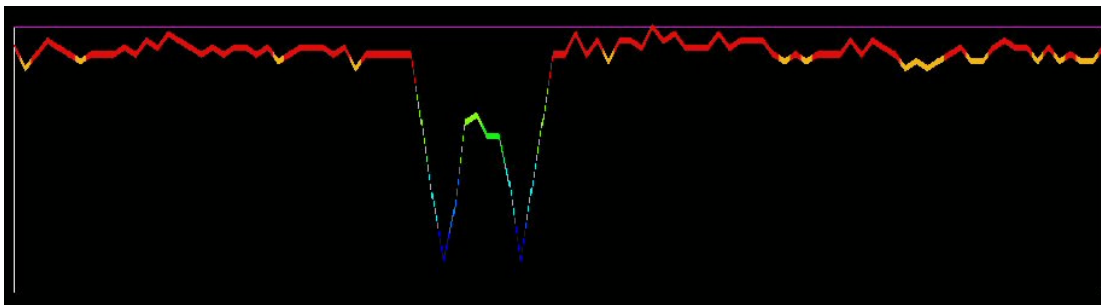

Figure 4.6
16. See “Tunnel & Void Locating” for viewing of scan. (Figure 4.6)
In the above image (Figure 4.6), there is an example of how a tunnel may appear. As you can see, there is enough background on either side of the void to allow it to stand out better.